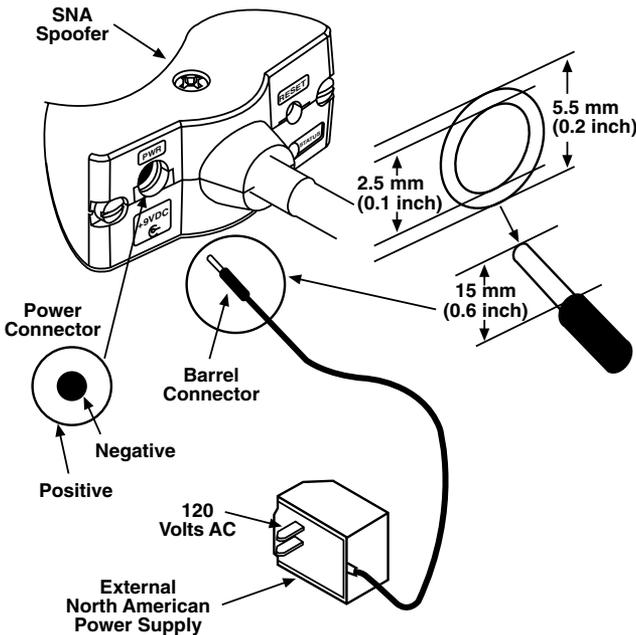

Figure 3-2. Cable and Power Connectors.
When connected to any general device, a nominal +10 volt @ 150 milliampere power must be supplied from an external source, and connected to the power connector on the SNA Spoofer (see Figure 3-2).
external power supply with appropriate AC input voltage, and with a nominal output voltage equivalent to the North American power supply. The output connector must be of the barrel type, and with dimensions as shown in Figure 3-2. It must be approved by the appropriate safety agency of the country where the equipment is operated in.
1. Use Figure 3-2 as a guide. Disconnect the cable that normally connects SNA Spoofer to the SNA equipment, and connect it to the serial port on the PC.